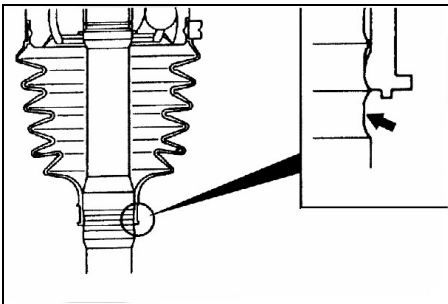

Fig.12-33
④ Install the R.J. boot with the part with the smallest diameter in a position such that the shaft groove can be seen. (see Fig.12-33).